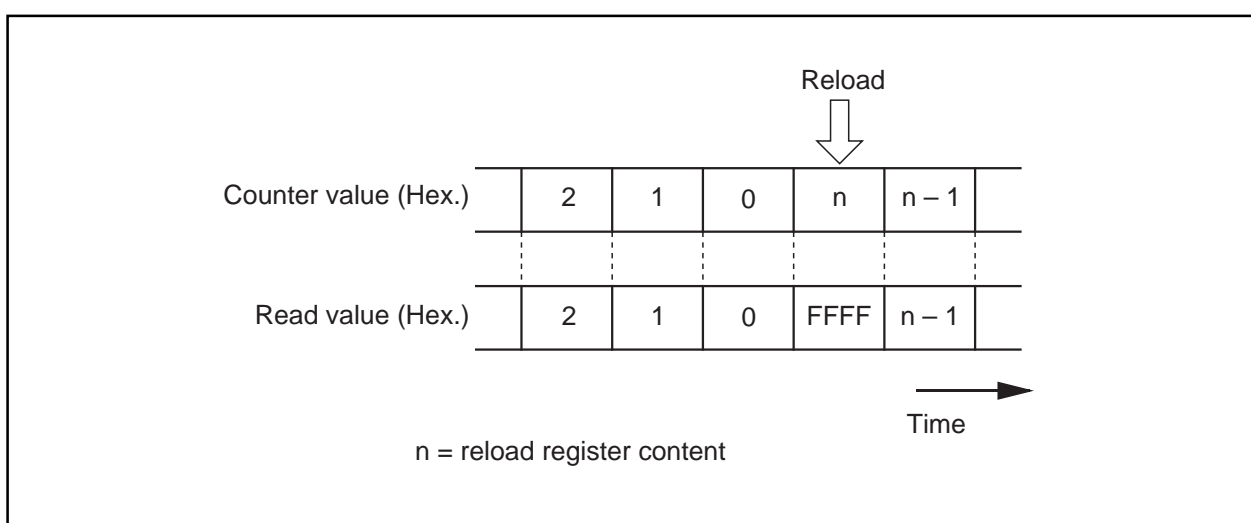

Figure 2.3.12. Reading timer Bi register
- (1) To clear reset, the count start flag is set to "0". Set a value in the timer Bi register, then set the flag to "1".
- (2) Reading the timer Bi register while a count is in progress allows reading, with arbitrary timing, the value of the counter. Reading the timer Bi register with the reload timing shown in Figure 2.3.12 gets "FFFF16". Reading the timer Bi register after setting a value in the timer Bi register with a count halted but before the counter starts counting gets a proper value.